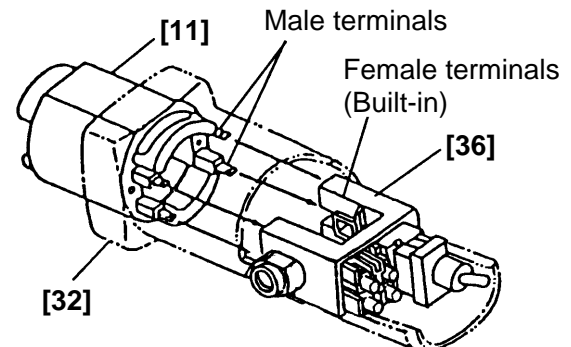

Fig. 7
**Caution: As illustrated in Fig. 7, the male terminals of the Stator [11] must be aligned so that they can be properly inserted into the female terminals of the Wiring Block [36]. Carefully confirm that the Stator is properly positioned before inserting the terminals.**